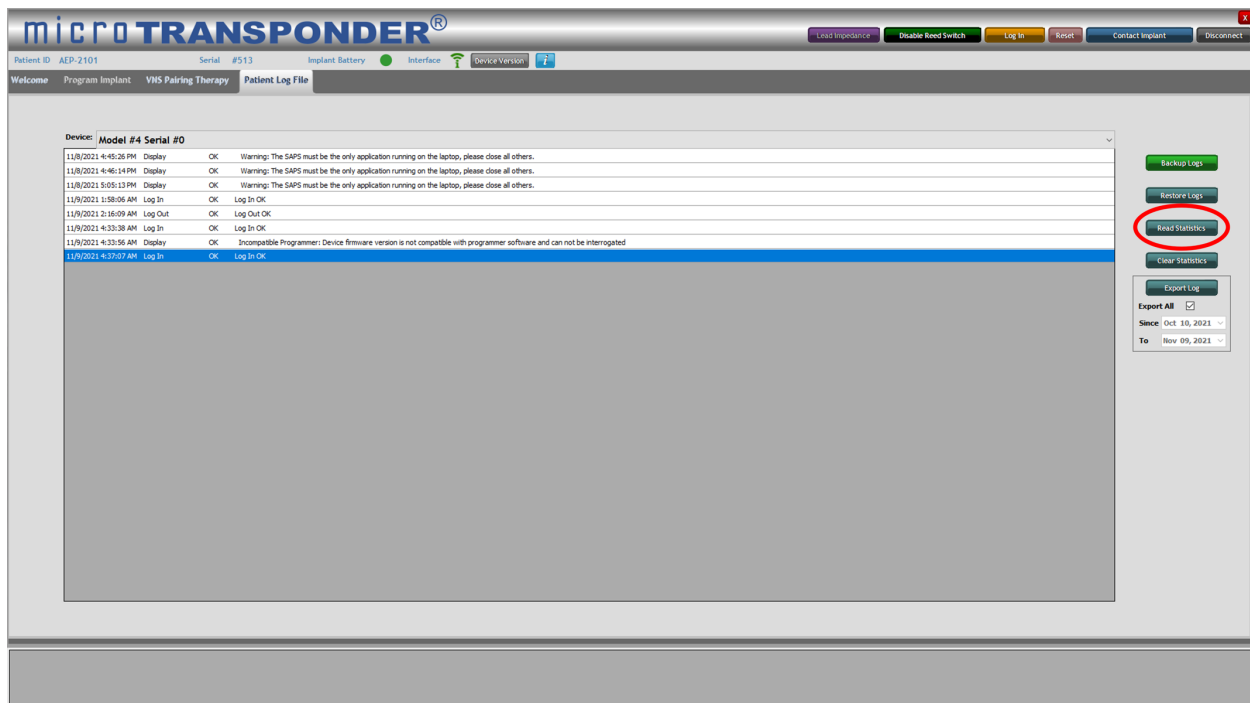

Figure 8.1: Patient Log File—Read Statistics
Information on device use is stored in a log file within the device. The **Patient Log File** menu (see Figure 8.1) allows the user to view the information on the computer screen or export the information from the device to a file that can be used later.
- To export the IPG statistics, select the **Read Statistics** button (circled in Figure 8.1). These are saved in .csv format to the hard drive of the laptop.